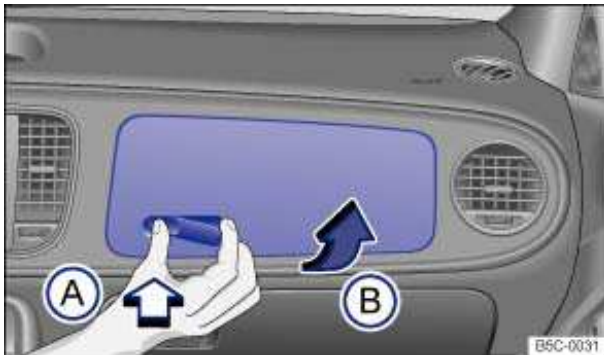

Fig. 87 On the passenger side: Opening the upper glove compartment.
- To *open*, press on the depression in the opening handle ⇒ **fig. 87** (arrow (A)). Then lift the glove compartment lid upward using the handle (arrow (B)).